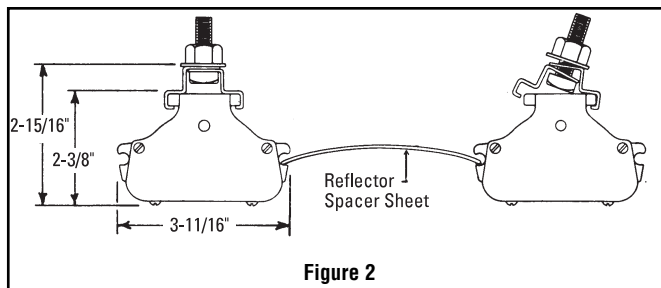

Figure 2
Clamp assembly may be attached to heater by sliding over end or by snapping over top of extruded frame section at any point along its length. (see Fig. 2) For proper heater support, the maximum distance between clamps must not exceed 48". On extra-long heaters, more than two clamps are furnished.
5. **Reflector Spacer Sheets** — Where heaters are not mounted side by side (see Fig. 2), reflector spacer sheets can be used between heaters. These reflector spacer sheets and companion reflectors consisting of an extruded aluminum housing with reflector sheet and mounting clamps are available. Check factory.